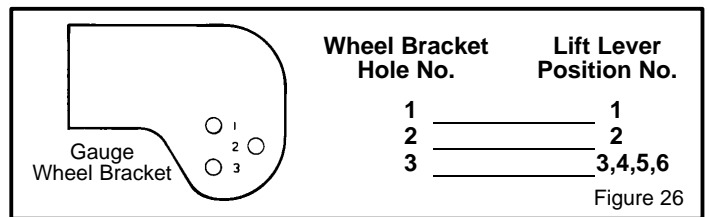

Figure 26
3. Look at each **gauge wheel bracket**. There are 3 holes in each bracket and a number next to each hole. The number for the height of cut position on the **lift lever** indicates the correct hole to use on each **gauge wheel bracket** (Figure 26).
4. Assemble the axle bolts to the **gauge wheel brackets** using the correct hole in the bracket as indicated (Figure 26).
NOTE: If the height of cut position is changed by the lift lever, you must move the gauge wheels to the correct hole (Figure 26) to keep a level height of cut.